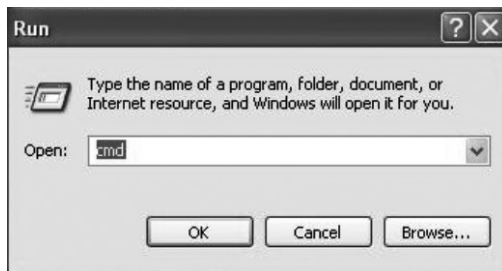

Figure 5-5 Run Window
3. Type cmd in the prompt Run window as Figure 5-5 shows and click OK.